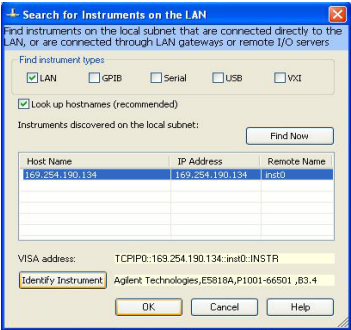

Figure 8 Discovery of the E5818 on the Subnet
- 4 When the E5818 on the subnet are discovered as shown in Figure 8, select the one of interest, click **Identify Instrument** (if desired), then **OK**.